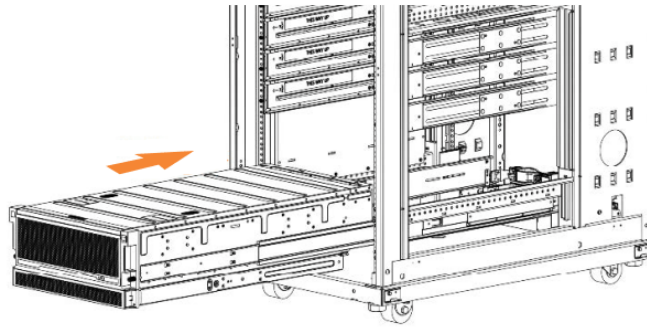

Figure 44. Example installation of the enclosure in the rack
- Install the expansion enclosure in the lowest position in the rack. Figure 44 on page 88 shows an example.